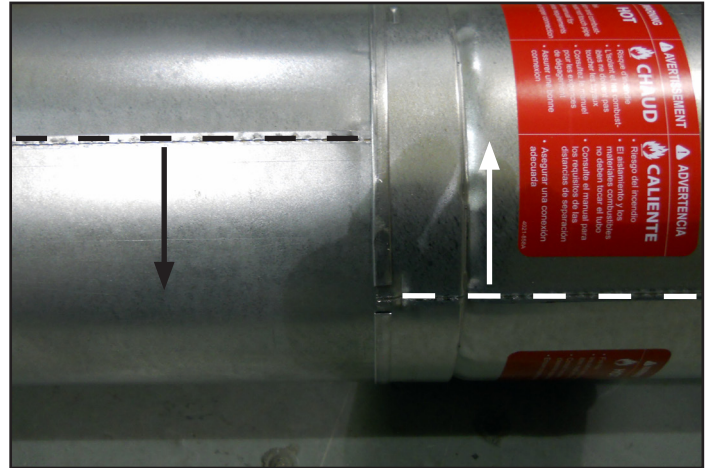
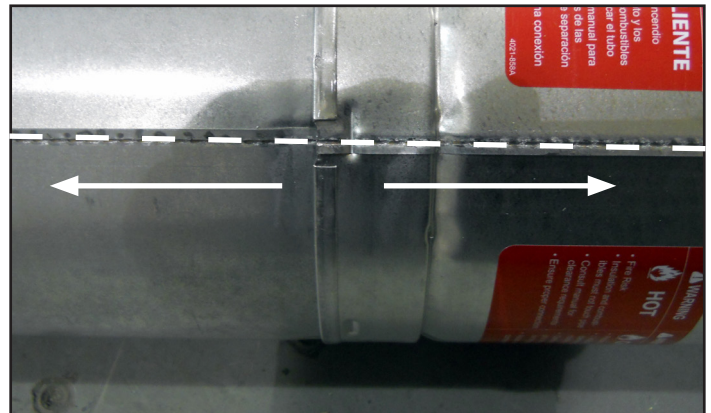

Figure 7.7 - Rotate Seams for Disassembly
Figure 7.8 - Align and Disassemble Vent Sections
- Rotate either section (see Figure 7.7) so the seams on both pipe sections are aligned as shown in Figure 7.8.